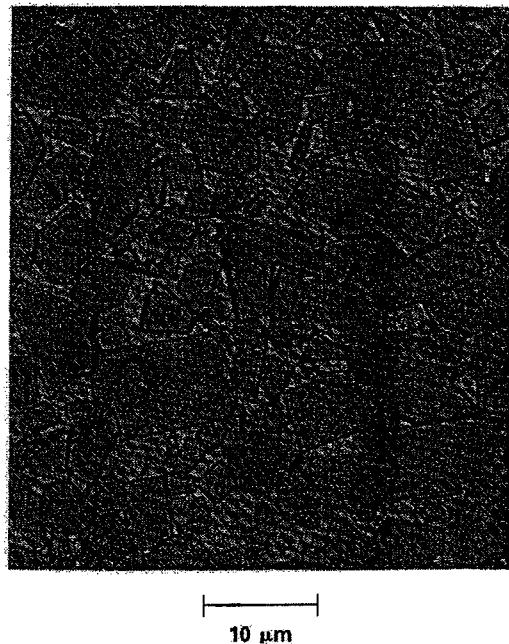

Figure 2
2. *Question based on Figure 2.*
[a] *How does the microstructure show in Figure 2 can be produced?*
[c] *List down the advantages and disadvantages of ceramic products with microstructure shown in Figure 2. Provide strong reasons for each of them.*